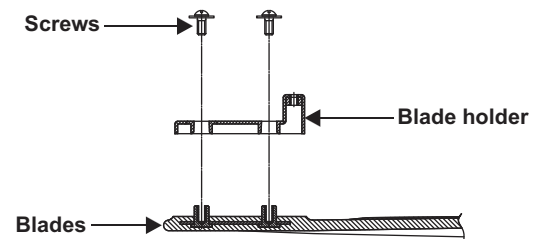

Figure 5
2. Attach the blade holder to the blades using the screws provided. Repeat process with other blades. (Fig. 5)